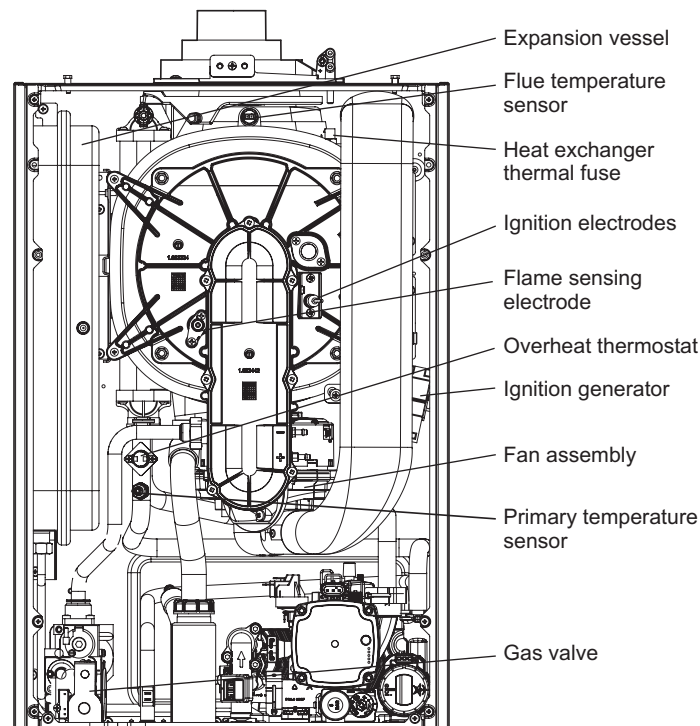

Fig. 7.1
7.3 ELECTRODES - Fig. 7.1
7.7 IGNITION GENERATOR - Fig. 7.1
7.8 OVERHEAT THERMOSTAT - Fig. 7.1
7.9 FLUE TEMPERATURE SENSOR - Fig. 7.1
7.10 GAS VALVE - Fig. 7.1
7.21 PRIMARY HEAT EXCHANGER - Figs. 7.1 and 7.4
3. Unplug the connections from the flue temperature sensor and thermal fuse, see Fig. 7.1.